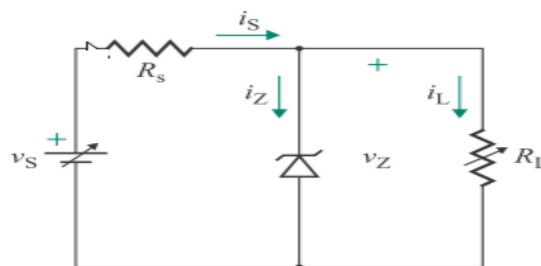

Figure 8
13. Design of a zener regulator, the parameters of a  $6.3\text{-V}$  zener diode for the voltage regulator circuit of figure 8 are  $V_Z = 6.3 \text{ V}$  at  $I_Z = 40 \text{ mA}$  and  $Z_Z = 2\Omega$ . The supply voltage  $v_S = V_S$  can vary between  $12 \text{ V}$  and  $18 \text{ V}$ . The minimum load current is  $0 \text{ mA}$ . The minimum zener diode current  $I_{Zk}$  is  $1 \text{ mA}$ . The power dissipation  $P_D$  of the zener diode must not exceed  $750 \text{ mW}$  at  $25^\circ\text{C}$ .